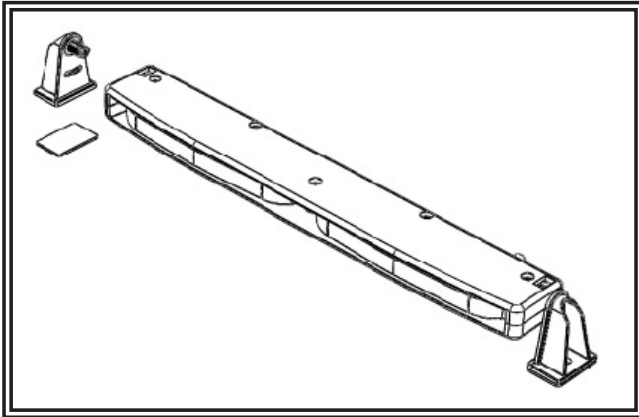

**Figure 4**
6. Install the bracket as shown on Figures 4 & 5. Gently hand tighten the nut.
2. Install the shroud bracket as shown on Figures 4 & 5. Gently hand tighten the nut.